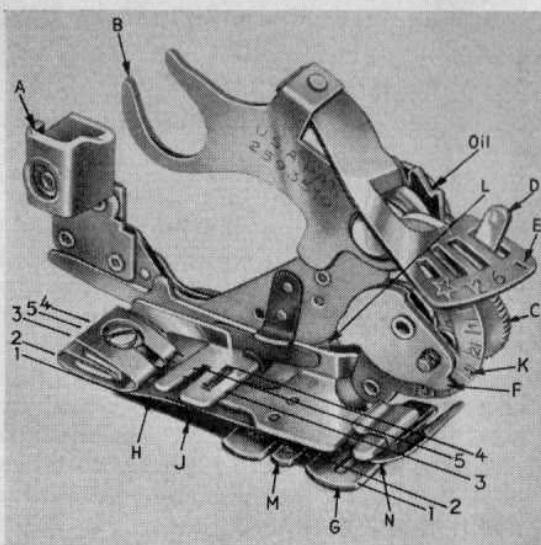

FIG. 48
a. Attaching the ruffler: Turn handwheel toward you until needle is at highest position. Remove presser foot and also presser foot thumb screw. Slip fork arm "B" of ruffler (fig. 48) over needle set screw (11) extending from the needle clamp (12) to the right. See fig. 1. At the same time enter foot "A" on presser bar. Reinsert presser foot thumb screw and tighten. Ascertain that starting position knob is set at the "central" position and that zig-zag regulating knob is turned to "0". Carefully turn handwheel and check if needle passes through center of needle hole in ruffler foot.